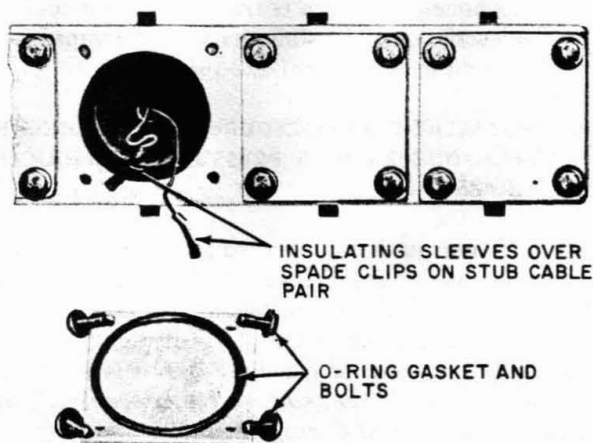

Fig. 18—Block Cover Plate Removed from B Transducer Housing
- (1) Remove the blank cover plate from the B transducer housing to expose the stub cable pair inside the cavity (Fig. 18).